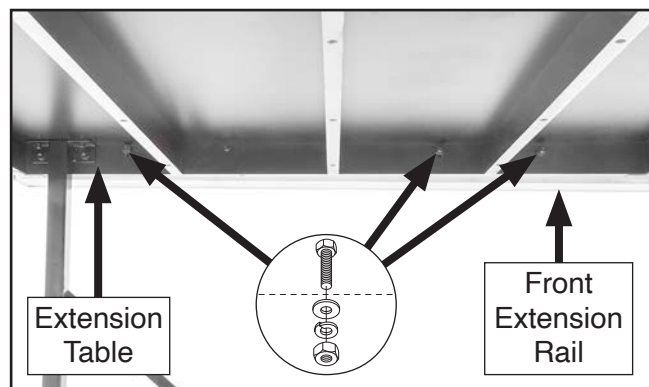

Figure 26. Extension table mounted to front extension rail.
12. Mount extension table to front extension rail with (3) 8mm flat washers, 8mm lock washers, and M8-1.25 hex nuts, as shown in **Figure 26**. Hand-tighten fasteners for now.